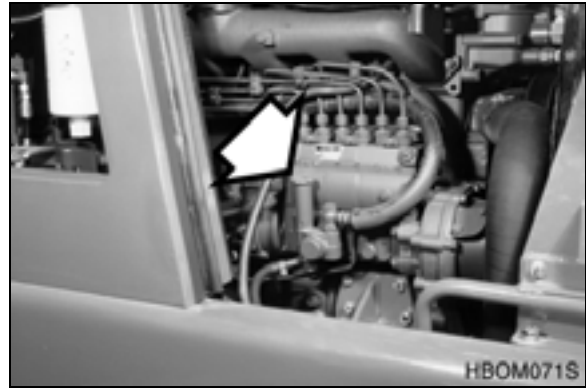

Figure 69 Mega 160/160TC
2. Unscrew and pump the hand operated primer pump (Figure 69) located by the fuel injection pump. Pump primer until fuel is present at plug hole in fuel filter head.